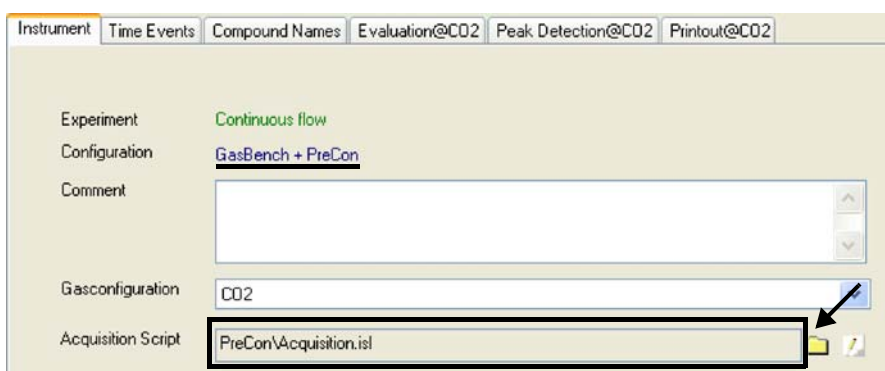

Figure 6-24. Selecting acquisition script for PreCon method
1. When setting up a new method, in its Instrument tab select the acquisition script found in the folder C:\Thermo\Isodat NT\Global\User\Gas Bench\ISL\PreCon. See Figure 6-24.